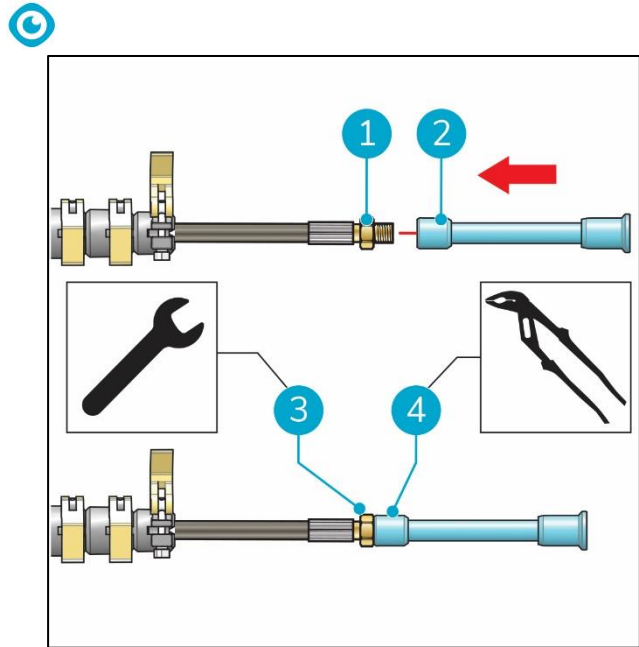

Figure 10
4. Connect the adaptor with the hose (Figure 10, pos 1). Ensure that the correct side of the adaptor (Figure 10, pos 2) connects to the hose.
5. Hold the adaptor with a pipe wrench (Figure 10, pos 4) and turn the nut (Figure 10, pos 3) clockwise with a 19 mm wrench to tighten it.